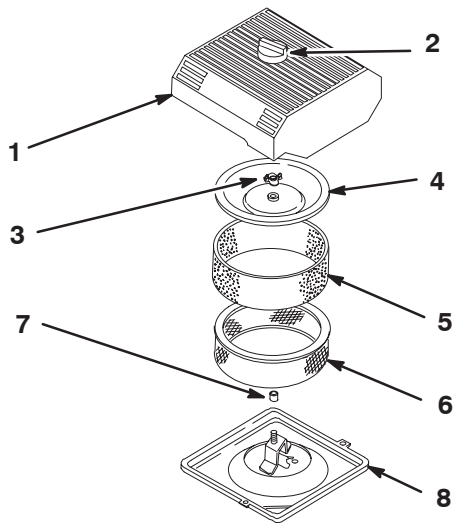

Figure 24
3. Clean around the air cleaner to prevent dirt from getting into the engine and causing damage (Fig. 24).
- Loosen the knob on the air cleaner cover and remove the cover (Fig. 24).
- Carefully slide the foam element off the paper element (Fig. 24).
- Unscrew the cover nut and remove the cover and paper element (Fig. 24).